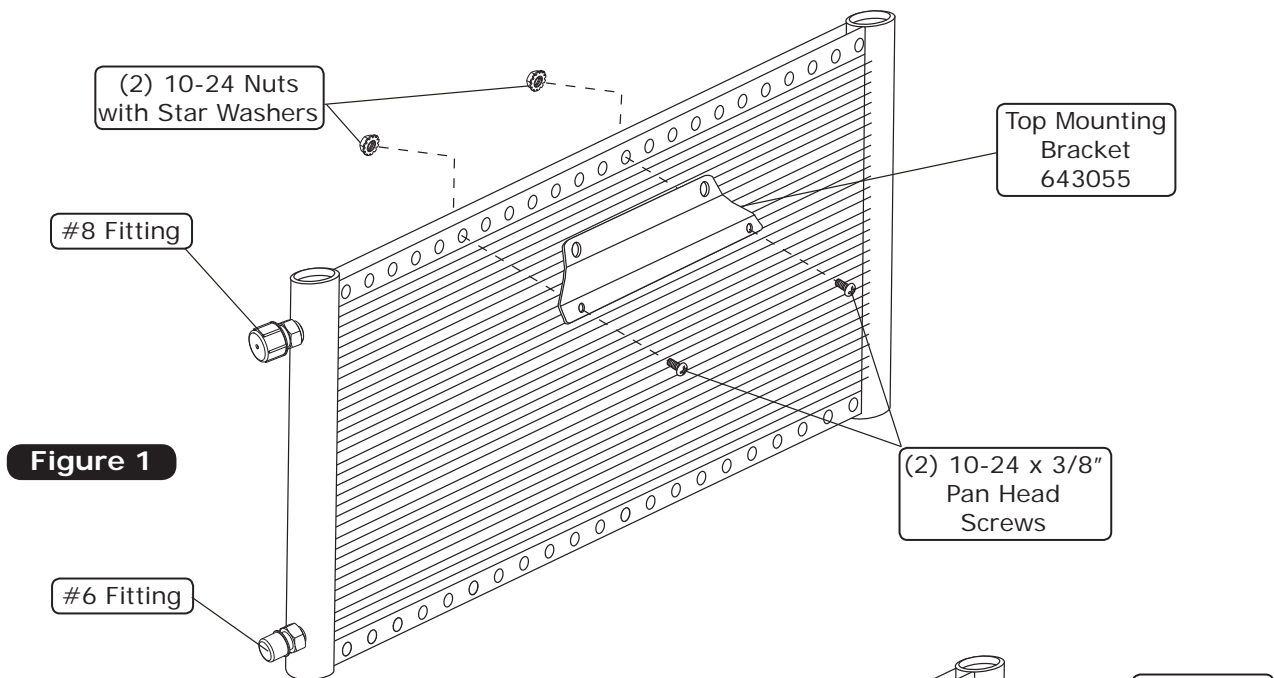

Figure 1
1. Install the top mounting bracket onto the condenser using (2) 10-24 x 3/8" pan head screws and (2) 10-24 nuts with star washers as shown in Figure 1, below. **NOTE: The bracket mounts through the 6th and 13th holes from the left side of the condenser.**